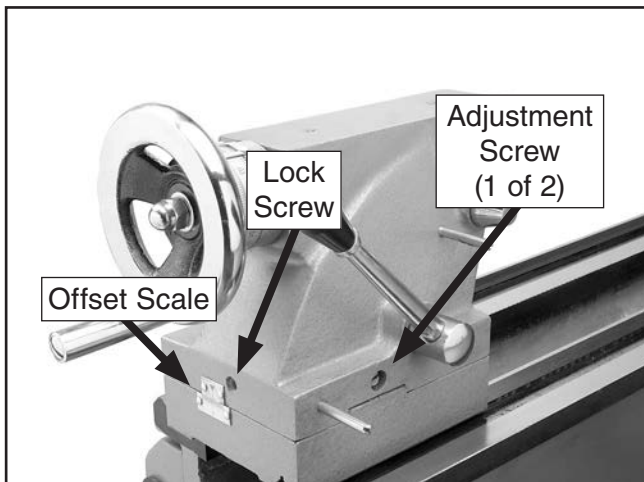

Figure 34. Tailstock offset controls.
1. Lock the tailstock in place, then loosen the lock screw at the rear of the tailstock shown in **Figure 34**.
2. Alternately loosen and tighten the adjustment screws on either side of the tailstock until the desired offset is indicated on the offset scale (see **Figures 34** and **35**).